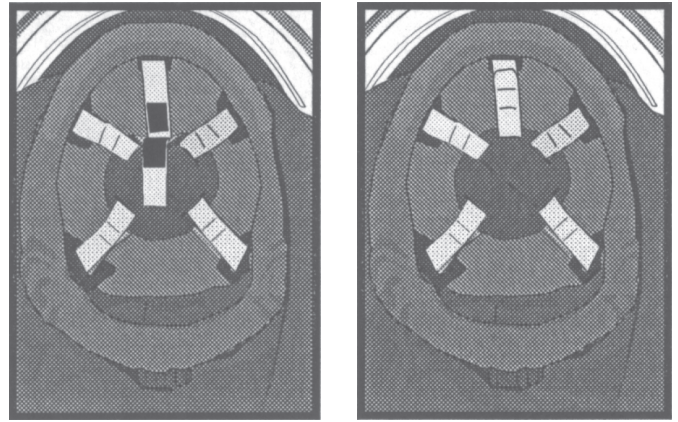

FIG. 8
C. **Center of Gravity Adjusting Suspension (FIG. 8):**